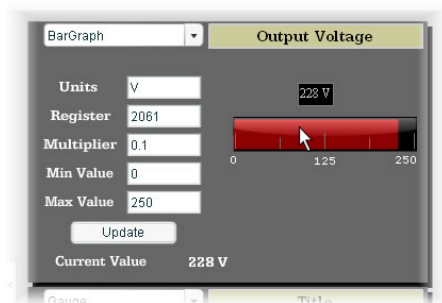

Figure 64: BarGraph
**BarGraph:** Refer to Figure 64. This type of meter implements a linear bar graph display format. Hovering the mouse pointer over the red portion of the graph pops up a tooltip which displays the current indicated value and units.